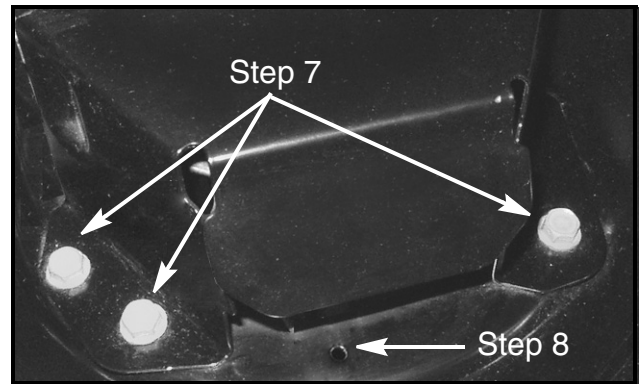

FIGURE 6
7. Using a 9/16" socket and ratchet, remove the three (3) self-tapping screws securing the right side belt cover to the deck. See Figure 6.
8. Locate the open hole by the right side belt cover shown in Figure 6.